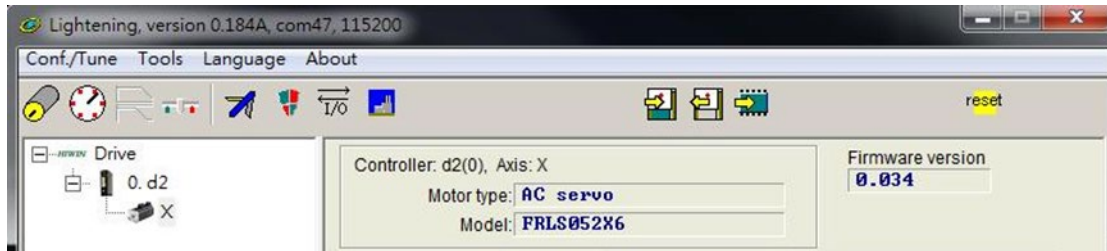

Figure12.2.1
Step 1: Click the icon () shown in figure 12.2.1 to open the “PDL” window.